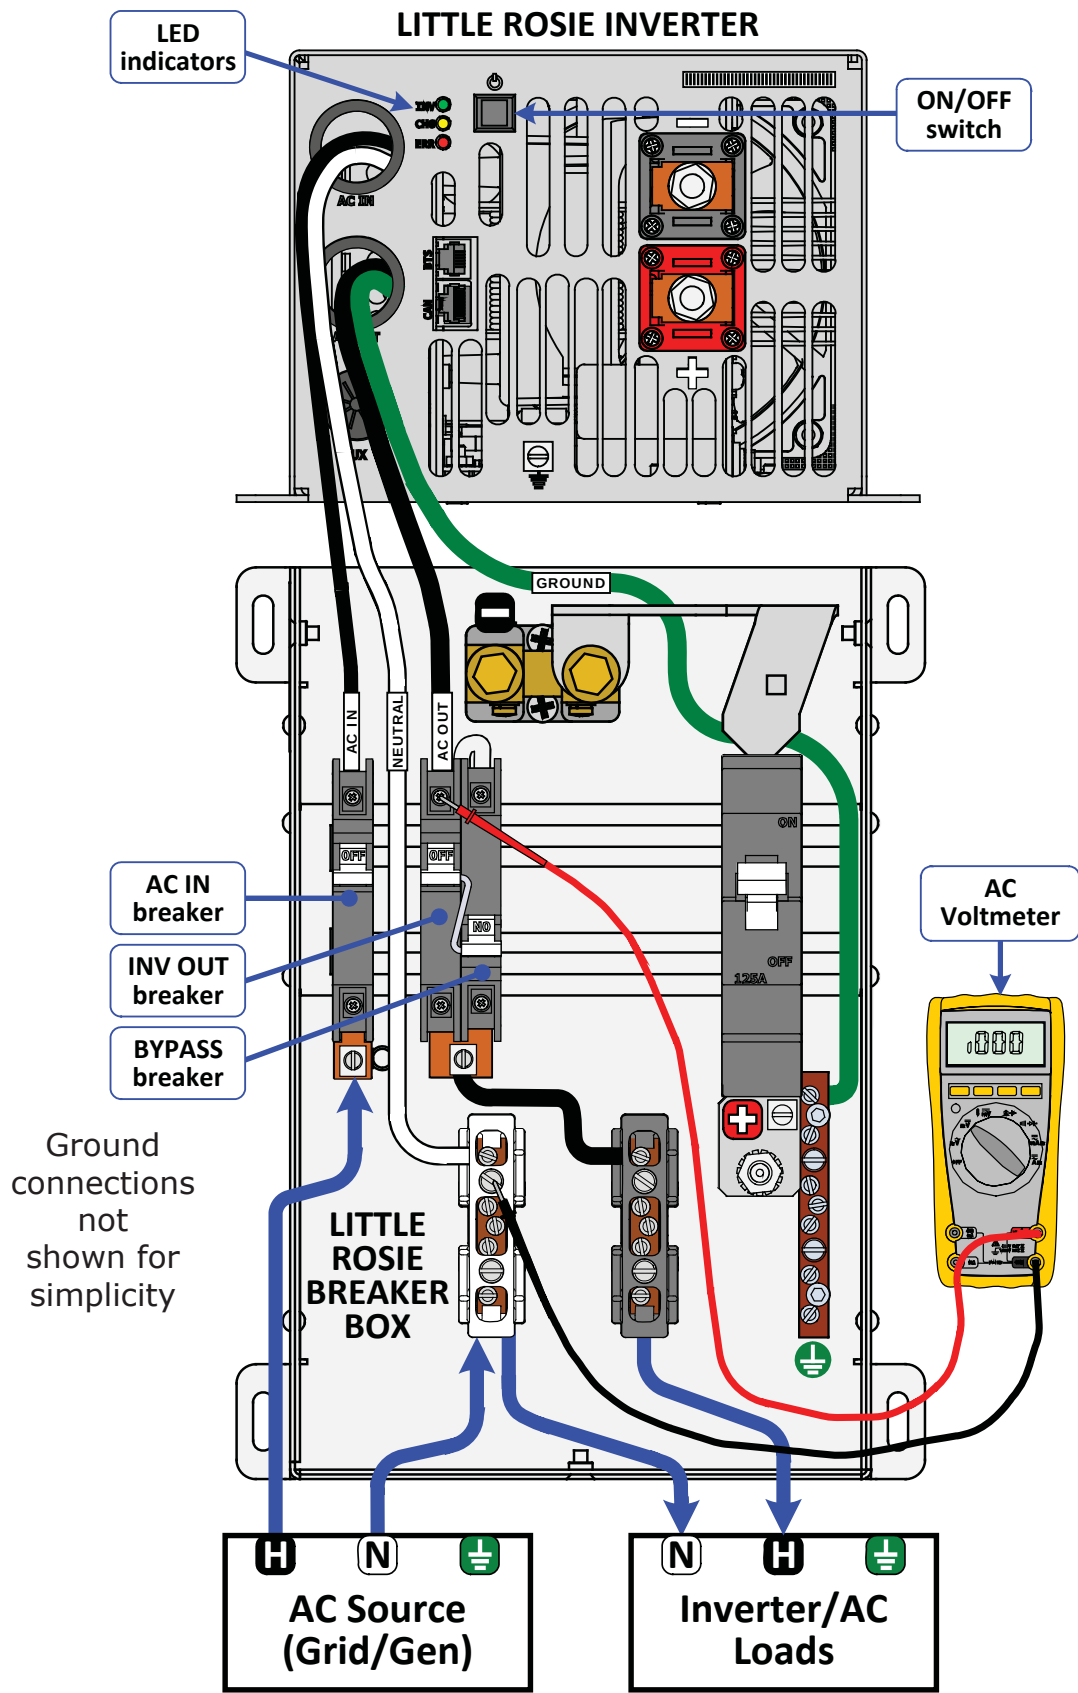

Figure 2-8, AC Voltage Check
5. Check the AC output voltage of the inverter by connecting an AC voltmeter to the top of the **INV OUT** breaker and the NEUTRAL busbar (see Figure 2-8). Verify the voltage is 120 VAC $\pm$ 2.5 VAC.